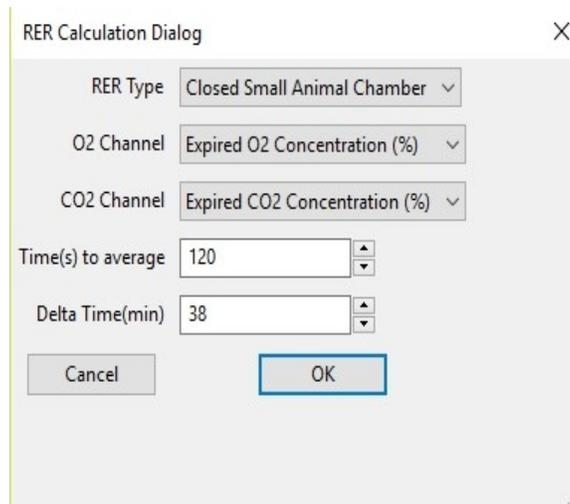

Figure AME-7: RER Calculation Dialog window.
2. Select and display a section of data that shows the change in CO₂ concentration at 1% (Figure AMe-7).
- Click AutoScale on all channels. Your data should look like the data seen in Figure AMe-7.